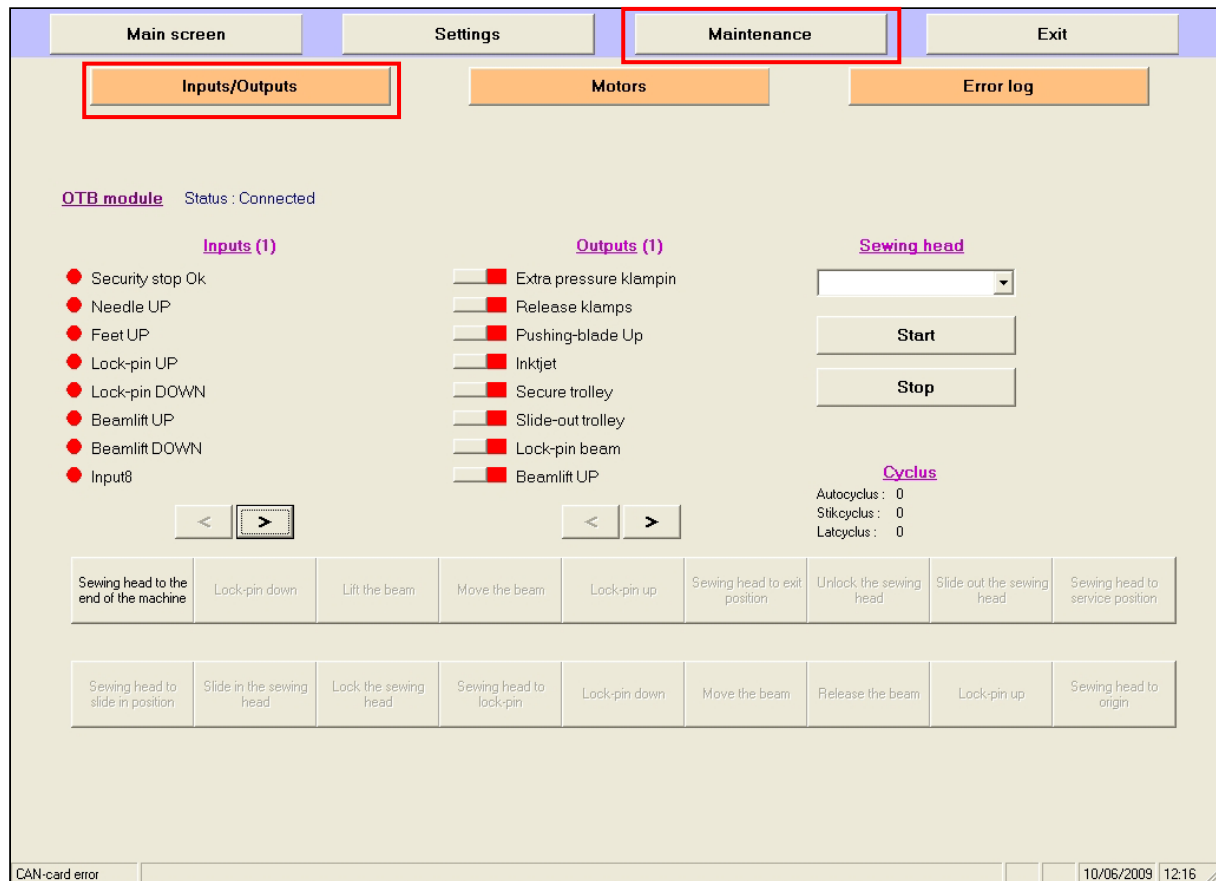

Figure 47 Maintenance menu
- ▶ Select **[Inputs / Outputs]**, as shown in Figure 47.